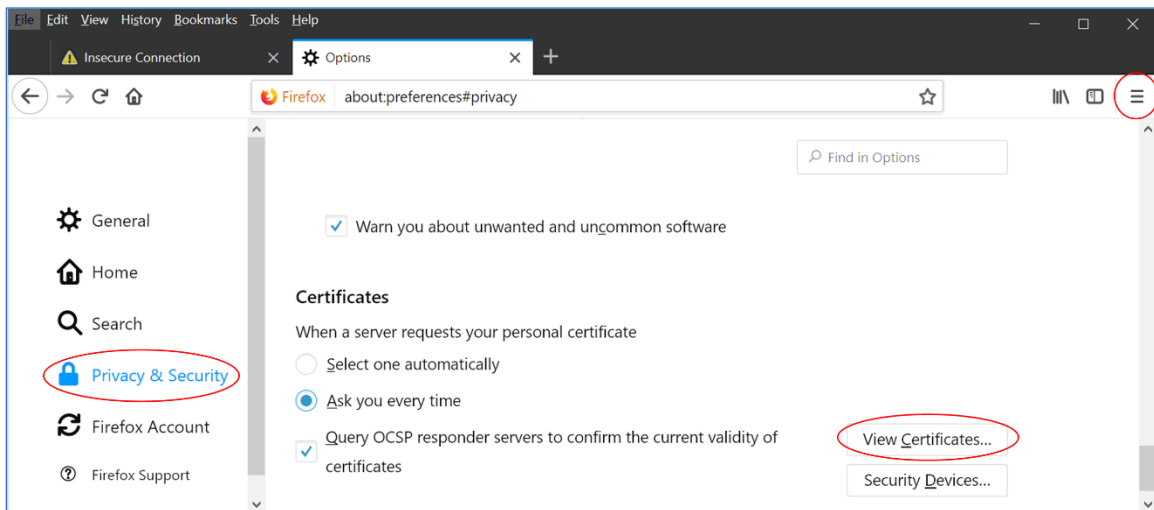

Figure 325: Firefox Options Interface
2. Select Options. The Options tab displays, as shown in Figure 325.